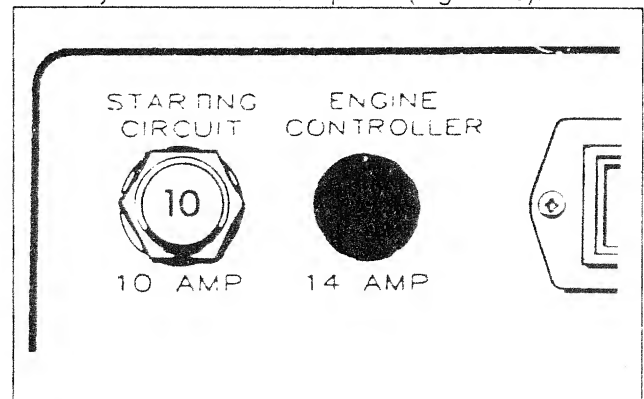

Figure 9 — 14 amp Fuse
**14 Amp Fuse:** If the fuse element melts open, you cannot crank or start the engine. If you must replace the fuse, use only identical 14 amp fuse (Figure 9).